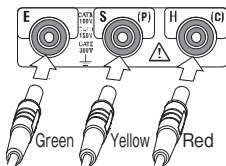

Fig. 7-10
(1) Connect the test leads as Fig. 7-10 shows.